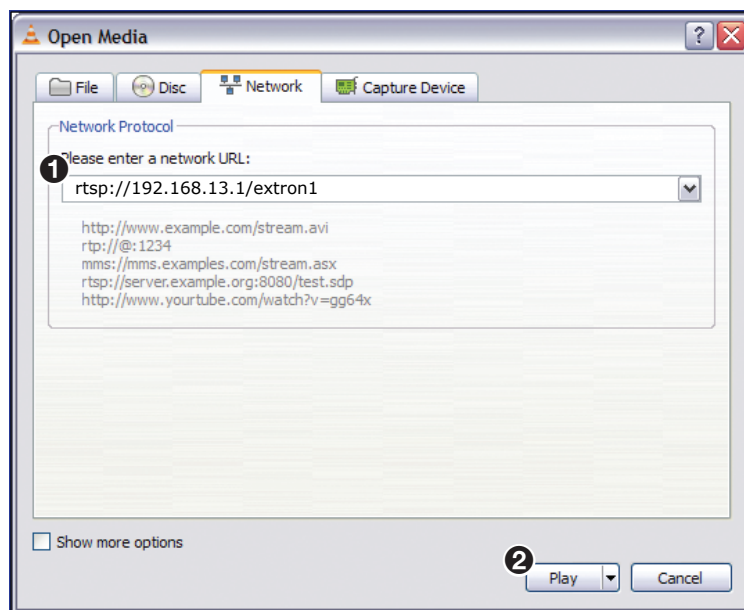

Figure 82. Enter Stream URL Information and Play
The Open Media dialog box opens (see figure 82).
4. Using the stream URL that was noted in **step 1** on page 103 (`rtsp://192.168.13.1/stream1`), enter it into the **Please enter a network URL :** field (see figure 82, ❶).